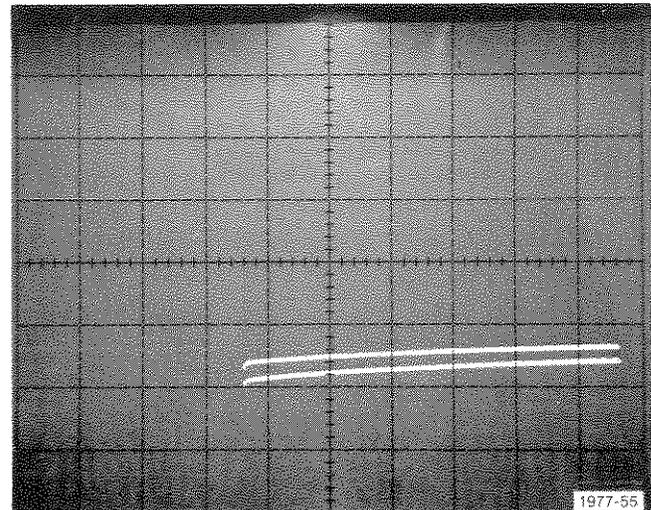

Fig. F-3. Typical display of input bias current.
b. Check the display to see that the +Input Bias Current is ≤ 500 nA (≤ 2.5 divisions of vertical deflection from the display zero reference point, see Fig. F-3).